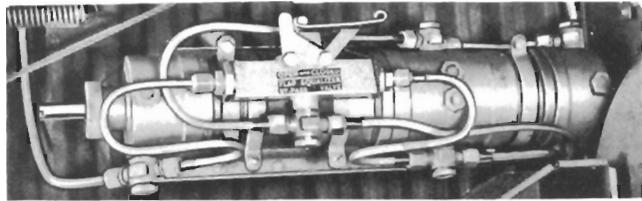

Figure 10—Hydraulic Equalizer Valve
(9) WING FLAP CONTROL.—The wing flaps are actuated by engine hydraulic pressure with provision for emergency hand pump operation. They are actuated by means of the flap control switch (figure 9-2). The pressure on the flaps is equalized by means of the hydraulic equalizer valve located on the floor to the right of the pilot's seat (see figure 10). This valve insures that the two flaps come down or go up together.